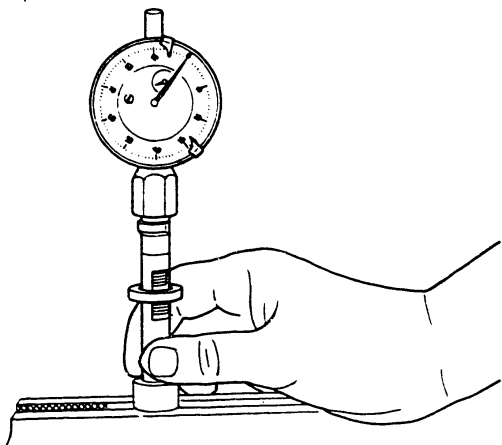

Fig. 28 "0"-point adjustment
5. Position the adjusting device on the base as shown in Fig. 28, and set the dial gauge to "0" while the adjusting device is pushed down.